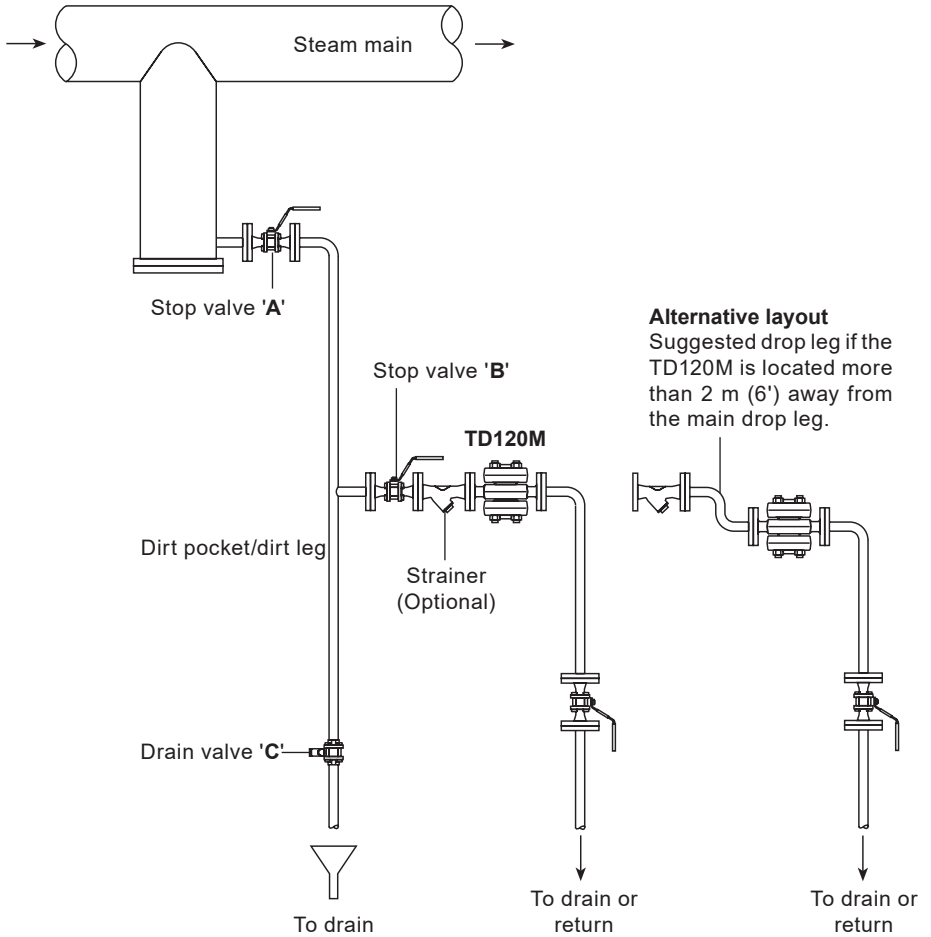

Fig. 2 Typical installation
- 3.2** Determine the correct installation situation and the direction of fluid flow. A typical installation is shown in Figure 2, page 9.
Initial start-up can take several hours (or days) to bring the system to normal operating pressure and temperature. Even if the trap has replaced another trap while the main system has remained running, it may still be necessary to vent air from the drop leg. If the trap is some distance from stop valve 'A' (Figure 2), it could be possible to air lock the pipework between valve 'A' and the trap (i.e. the trap closes to air and does not readily allow steam to enter the pipework). To overcome this on start-up the following procedure should be adopted. With the stop valve 'B' closed, drain valve 'C' open, slowly and partially open stop valve 'A'. This will discharge the air, condensate and any pipe debris.